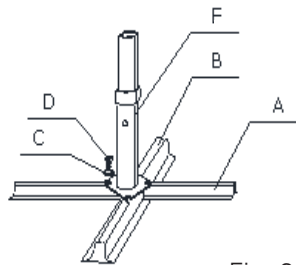

Fig. 2
Step 2. Attach the Holder Pole (F) to the base by using the Bolts (GG) and Washers (HH) (found in blister pack) as shown in Fig. 2. Hand tighten only. Adjust the Holder Pole (F) to be sure it is positioned correctly on the base. Finally tighten all bolts. Be careful not to over tighten.